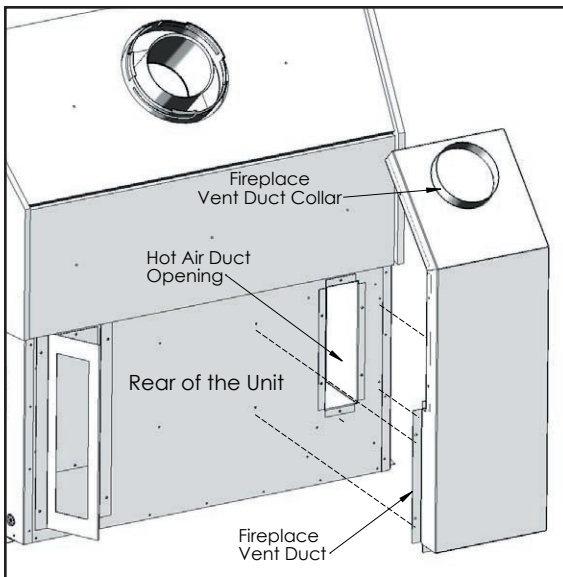

Figure 4: Install the vent duct kit.
3. Cover the hot air duct opening with the Fireplace Vent Duct (refer to Figure 4). Push the vent duct kit against the back of the fireplace and secure it in place with five (5) 1/4" HWH self drilling screws.